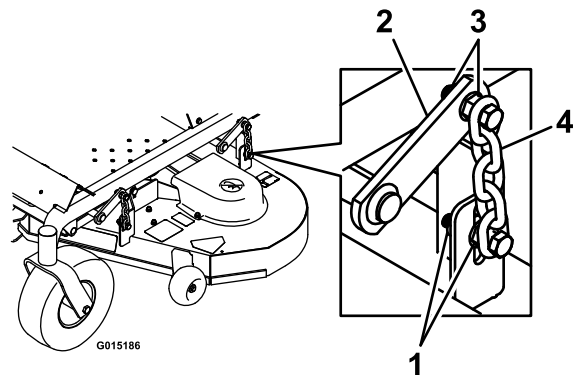

Figure 24
10. Loosen the leveling adjust locking nuts (item 1 Figure 24) on all four corners so that the deck is sitting securely on all four blocks. Make sure that the slack is removed from the deck hangers and the deck lift foot lever is pushed back against the stop, then tighten the four leveling adjust locking nuts.
7. Loosen the leveling adjust locking nuts (item 1 Figure 24) on all four corners so that the deck is sitting securely on all four blocks. Make sure that the slack is removed from the deck hangers and the deck lift foot lever is pushed back against the stop, then tighten the four leveling adjust locking nuts.